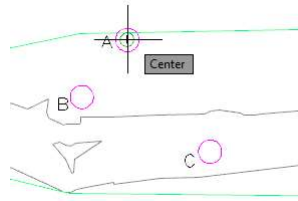

Figure 5-61 Specifying the start point at the center of the first circle
2. Snap to the center of the circle A and click to specify the start point, as shown in Figure 5-61